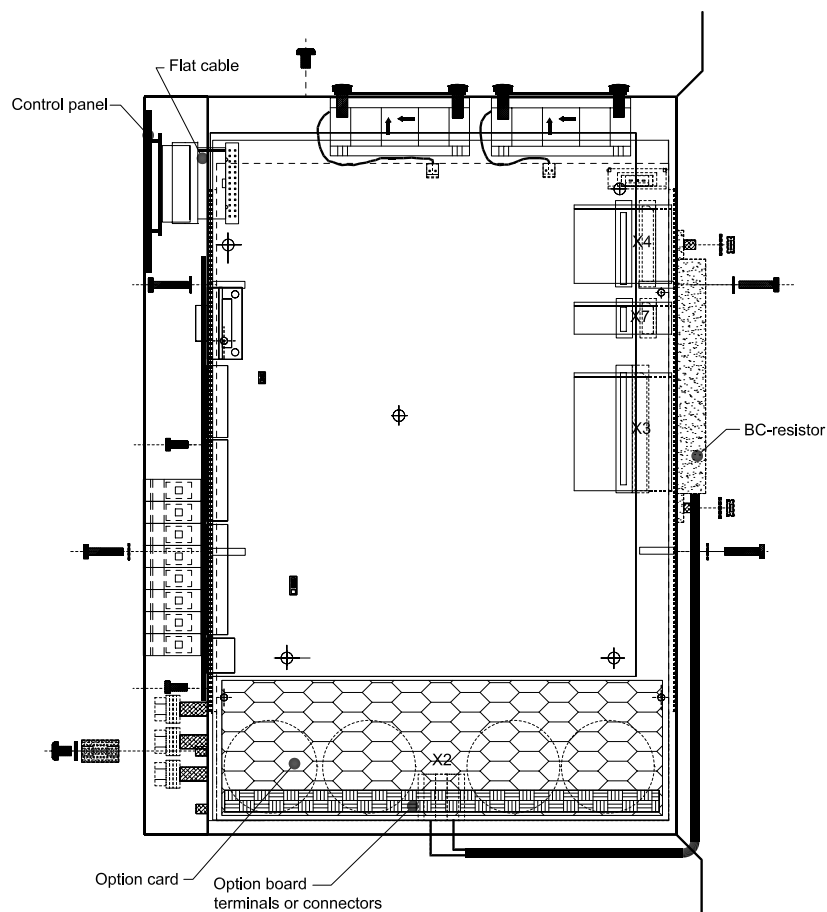

Figure 6.1
5. The connection for the option card (50-pin socket connector) is located at the bottom right-hand edge of the control board. Hexagon symbols in Figure 6.1 indicate at what point the card must be installed.